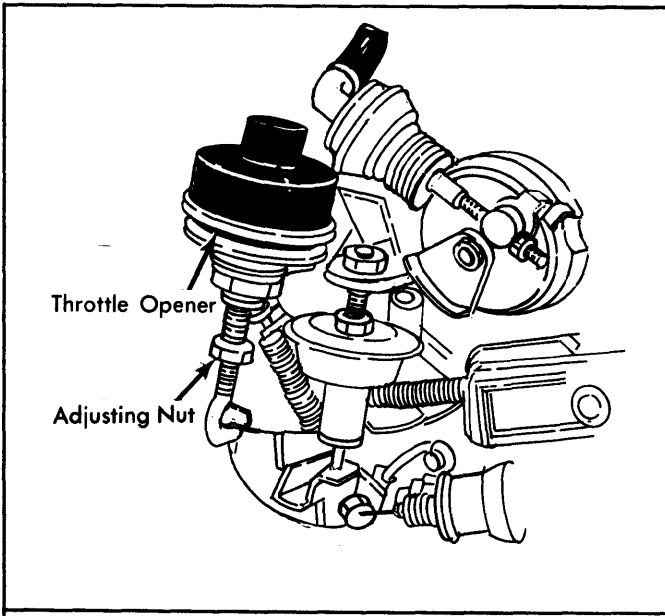

Fig. 3: Throttle Opener Adjustment
2) Disconnect coupler from air conditioning solenoid valve. Connect battery power to one terminal and ground to second terminal. Check to see that throttle opener operates and engine speed increases to 1150-1250 RPM in Neutral. If engine speed is incorrect, turn adjusting nut. See Fig. 3.